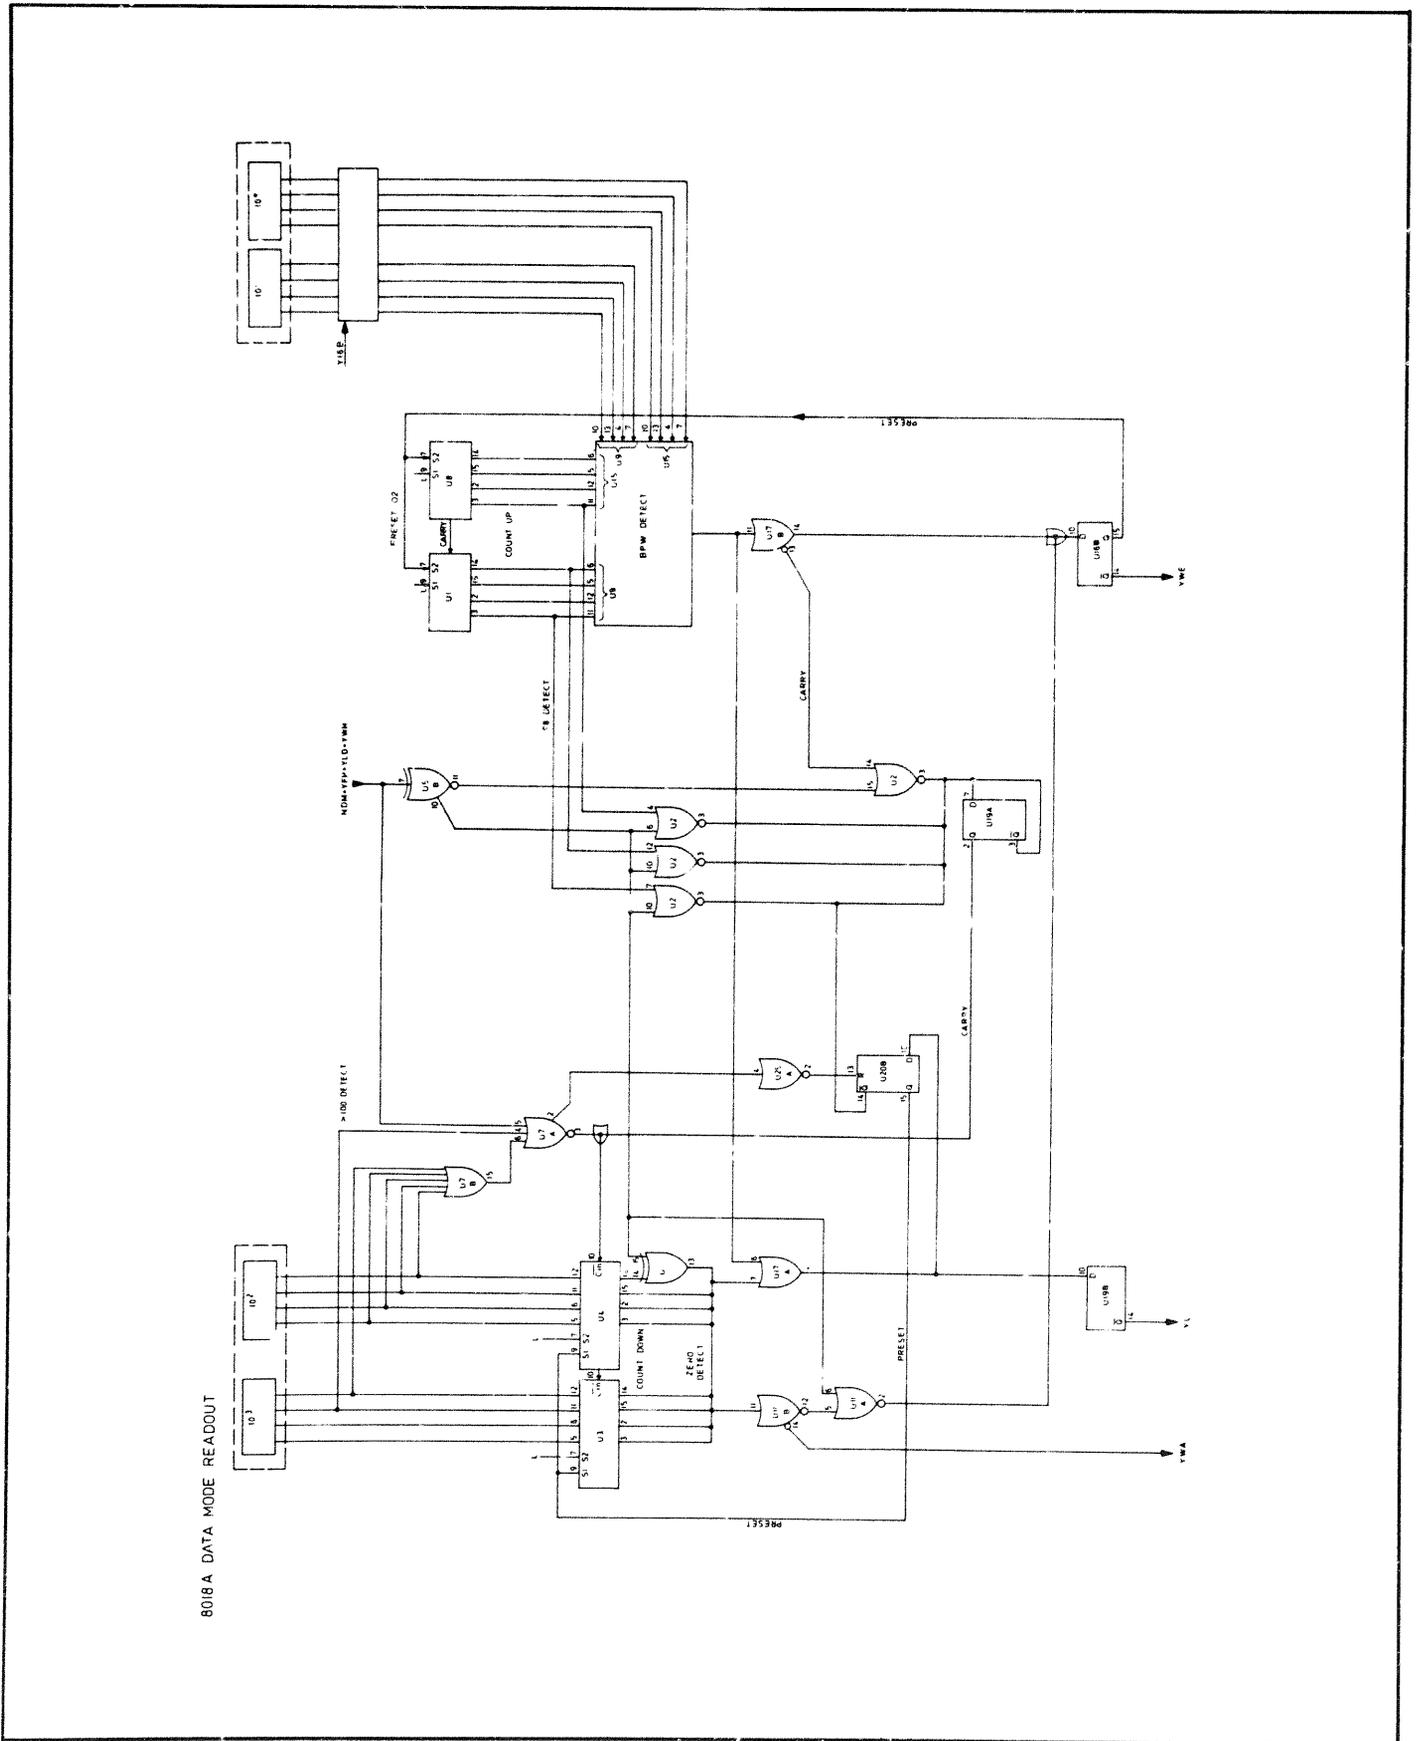

Figure 8-4-2. Functional Diagram for Data Mode Readout
When DATA MODE is selected, the decimal number set at the thumbwheel switch A11 S1 is the number of bits generated within one data stream. Similar to that described in WORD MODE, two counters are employed such that the BPW (U1/U8) counter now counts up to 99 (this being repeated according to the multiple of  $10^2$  set for the DATA STREAM LENGTH e.g. for LENGTH 980, the BPW counter counts 9 times up to 99, the 10th count being up to 80), and counters U4 and U3 count multiples of  $10^2$  and  $10^3$  respectively. Whereas counter U1/U8 operates in increment mode during data generation, counter U3/U4 operates in decrement mode, the decrement clock being the carry signal derived from U1/U8. This carry signal is derived via the '98' detect at U2 input pins 4, 7 and 12 — as opposed to the carry signal in WORD MODE at pin 14 (U2) which is now disabled by the NDM signal at U5B/pin 7 (U5/pin 11 is now high). A functional diagram is given in Figure 8-4-2. The conditions for presetting the counters (i.e. low on both S1 and S2 inputs) are established during the last clock cycle of a data stream readout. On the second last clock cycle, a low is present at the U11A pin 2 output due to the 'zero detect' signal from U5C pin 13 (inverted at U11 pin 12 to a high state). On the last clock cycle, therefore, this low is clocked through flip-flop U16B to the S2 inputs of U1/U8 for presetting. The first clock pulse of the new data stream then clocks decimal 2 into the counter (see WORD MODE description for an explanation of the decimal 2 start condition). Simultaneously for counter U3/U4, during the second last clock cycle of the data stream, a low is present at U17 pin 2 due to the 'last bit' detect (YL). This low is also clocked through flip-flop U20 on the last clock cycle, thus allowing the  $10^2$  and  $10^3$  digits in the selected DATA STREAM LENGTH to be loaded into counter U3/U4 on the first clock pulse of the new data stream (on condition that the DATA STREAM LENGTH is  $> 99$ ).